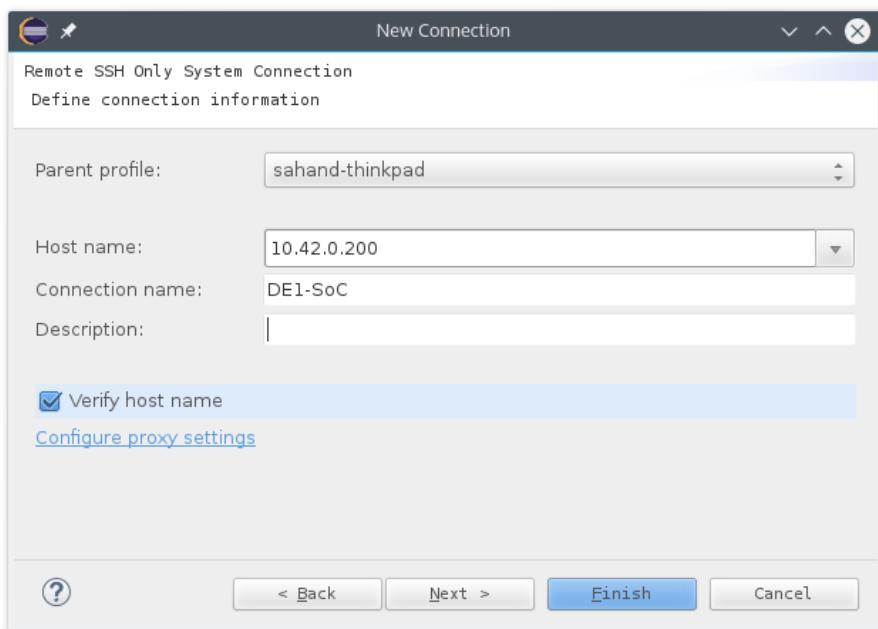

Figure 13-17. New SSH Only Connection
71. Enter “DE0-Nano-SoC” as the “Connection name”. You should have something similar to Figure 13-17.